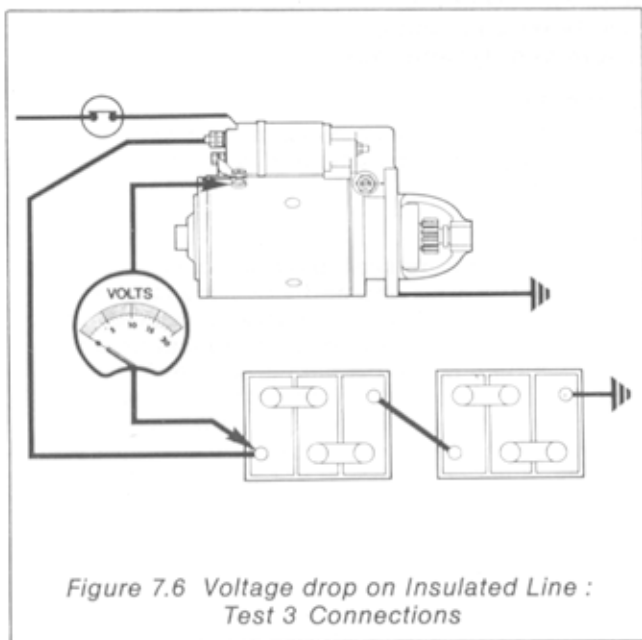

Figure 7.6 Voltage drop on Insulated Line : Test 3 Connections
7.15 Connect the voltmeter between the starter input terminal and the insulated battery terminal as shown in Figure 7.6. With the starter switch open, the voltmeter should read the battery voltage. When the starter switch is operated the voltmeter reading should be practically zero. A high voltmeter reading indicates a high resistance in the starter